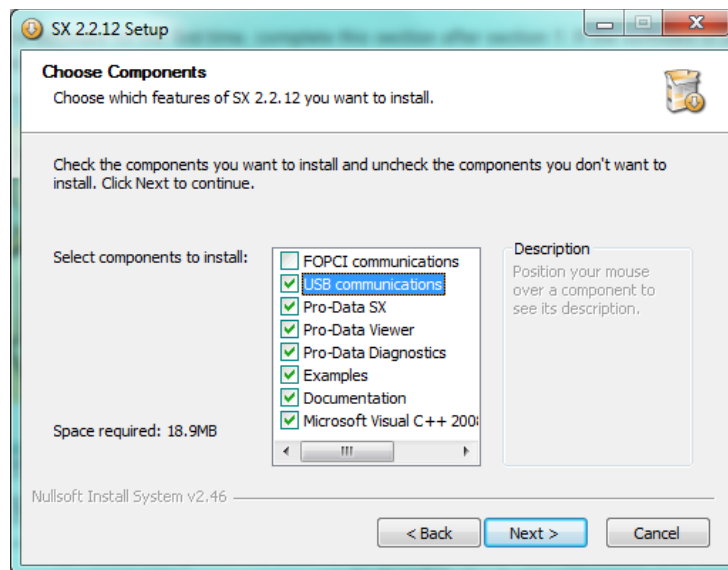

Figure 4.2 - SX Pro-Data installation components
3. Check the selected components are appropriate for your instrument i.e. choose the correct communications mode (FOPCI or USB) as seen in Figure 4.2. You can check which communication mode you have by identifying the cable linking your electronics unit to your PC.